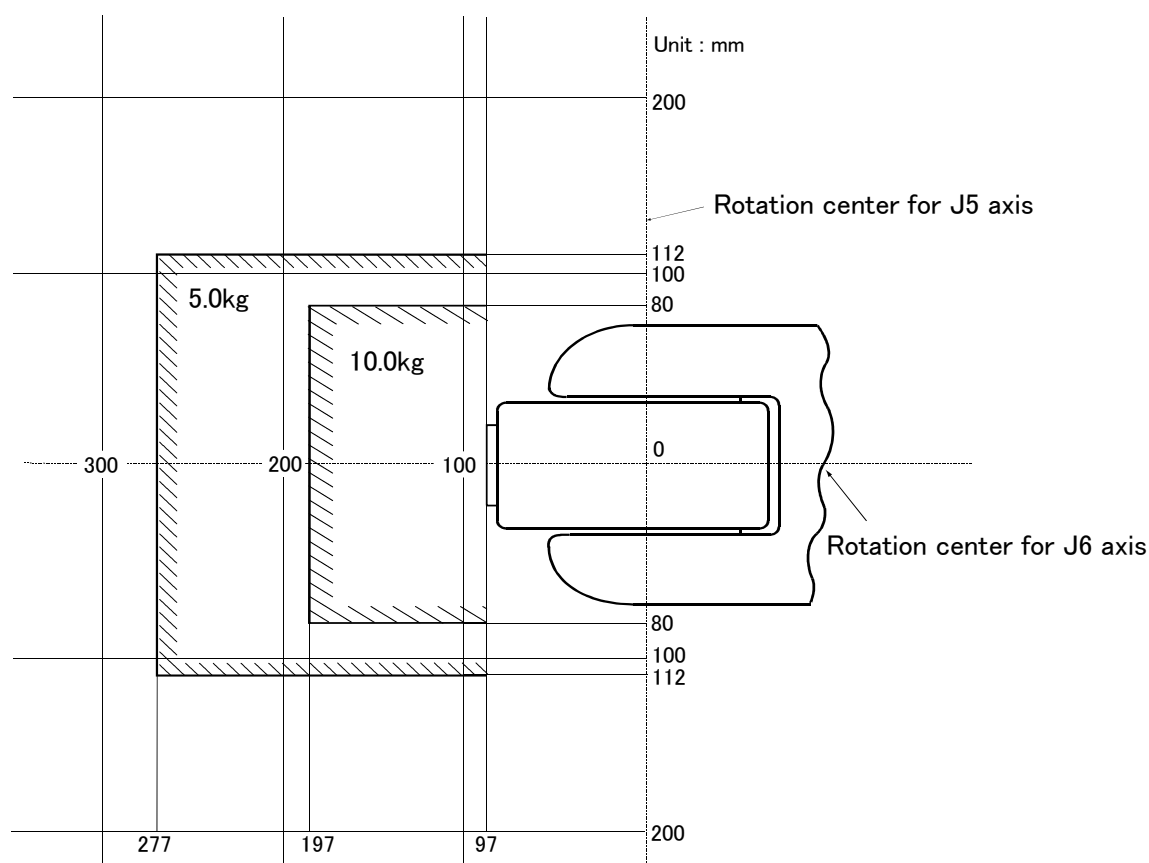

Fig.2-1 : Position of center of gravity for loads (for loads with comparatively small volume):RV-12SD/12SDL Series
- (1) The tooling should have the value less or equal than the smaller of the tolerable inertia and the tolerable moment found in Page 7, "Table 2-1 : Standard specifications of robot"
- (2) Fig. 2-1 shows the distribution dimensions for the center of gravity in the case where the volume of the load is relatively small. Use this figure as a reference when designing the tooling.
- (3) When the load is not mass, but force, you should design the tooling so that it does not exceed the value for allowable moment described in Page 7, "Table 2-1 : Standard specifications of robot"